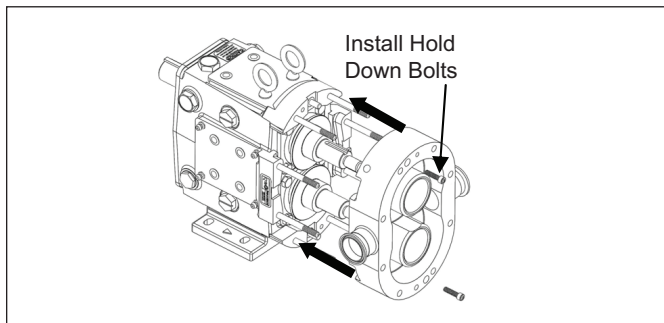

Figure 48. Installing Pump Body
1. Make sure all seal components are installed by following “Seal Maintenance” instructions provided on page 23. Ensure all dowels are in place and that all parts including body, rotors, and rotor nuts are clean and free of foreign matter. Slowly slide the body over the gear case studs and shafts, ensuring the seals are kept in place and not damaged (Figure 48). Install the two hold-down bolts and tighten the body against the gear case to ensure the dowels are engaged. Rotate the shafts to make sure there is no interference with the seals.